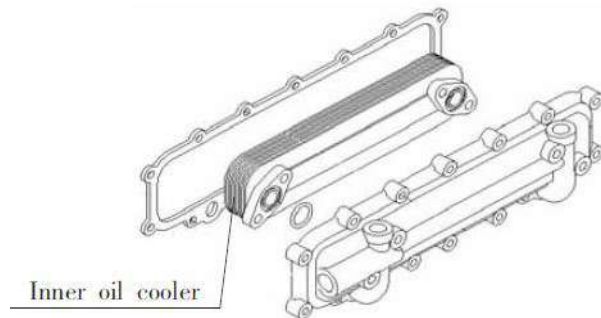

Fig 5-39 Inner-oil Cooler Installation
4.7 The inner -oil cooler is used in four cylinder diesel engines with double -shaft balance system and 6N series engines. Insert seals into seal grooves of oil coolers. Align two oil orifices of cover board with oil cooler, screw bolts and tighten them, install cover board with gasket on cylinder block. Retighten the belts from middle to each side (see Fig 5-39).